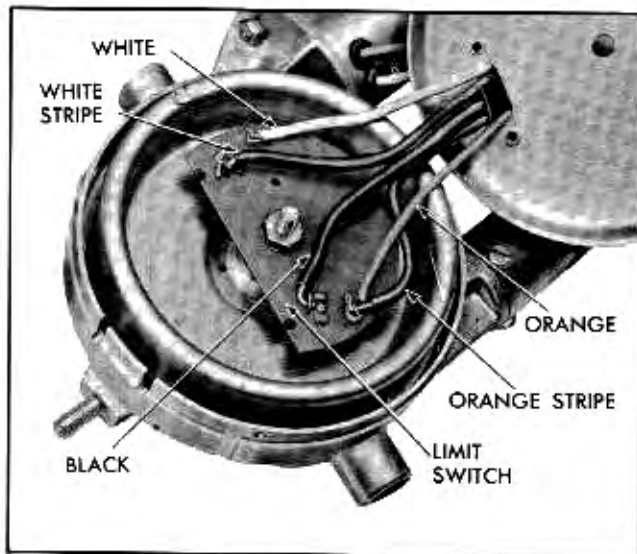

Fig. 14-3 Casco Limit Switch
4. Remove nut and lockwasher which retain switch and remove switch (Fig. 14-3). **NOTE:** If new switch is installed, solder wires to same terminals as on original switch.